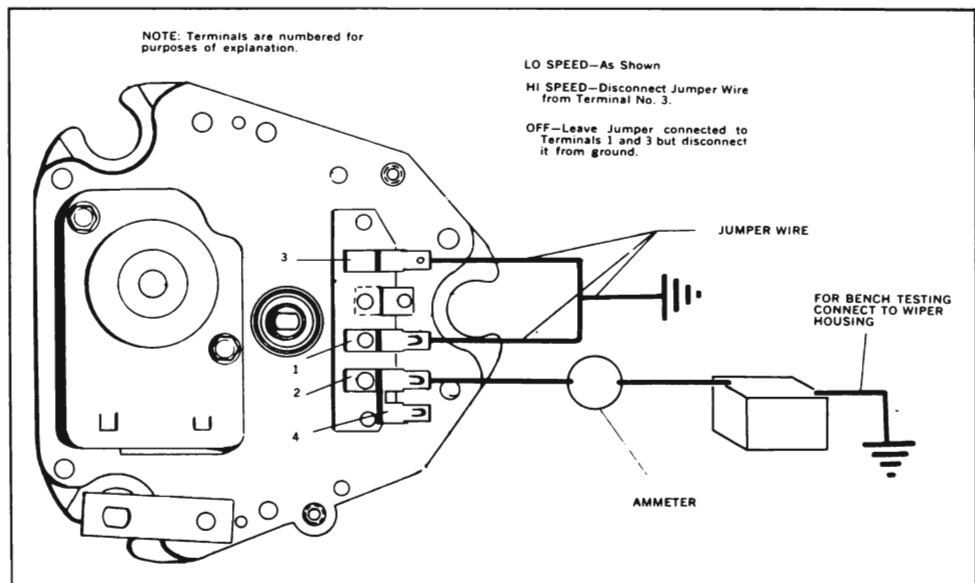

Figure 10-99—Connections to Operate Wipers
Figure 10-99 illustrates the method of connecting leads to the wiper for either bench operation or to run wiper independently of dash switch and car wiring when installed in car.
(b) With ignition switch on, check for 12 volts at harness terminal that connects to number (2) terminal (Figure 10-99).
(c) To determine if dash switch or car wiring are at fault, disconnect harness from wiper motor and try operating wiper as shown in Figure 10-99. If wiper fails to operate, remove body parts as required, disconnect transmission from wiper crank
(b) Disconnect wiring harness from wiper motor and try operating wiper independently of dash switch as shown in Figure 10-99.
It is assumed that in many cases there is no information available to the repairman about the original wiper complaint. It is necessary, therefore, that wiper operation be checked according to the instructions shown in Figure 10-99. **IMPORTANT - Be sure and use an ammeter capable of reading at least 30 amperes in the feed wire circuit.**